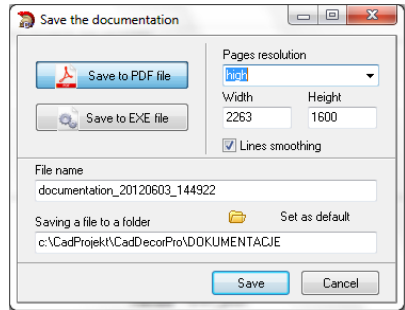

Fig. 315 – saving the documentation to PDF format
**Save**  – the save documentation function is used for creating archives; an EXE file is created while saving (which is stored in the selected location on the disk) which can be opened by double-clicking (Fig. 315);